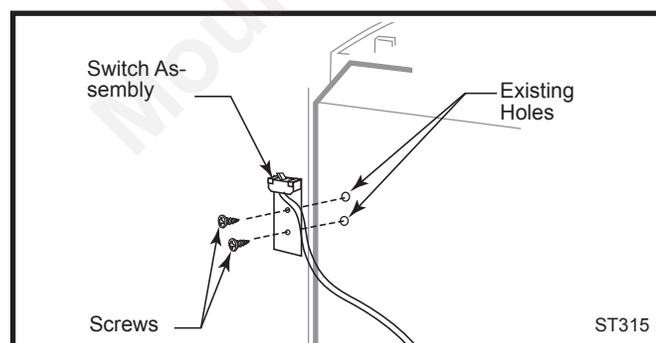

Fig. 19 Attach switch assembly to rear shroud.
1. Attach switch assembly to left rear side of stove shroud (when facing shroud) using two screws and existing holes in shroud. (Fig. 19)